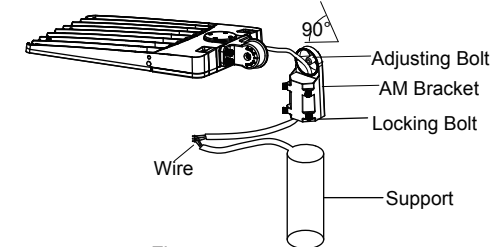

Figure 12
- Step 1: Connect the wire correctly and put the wires into pole. Then fasten the locking bolts between slip fitter and the pole. (Figure 12)